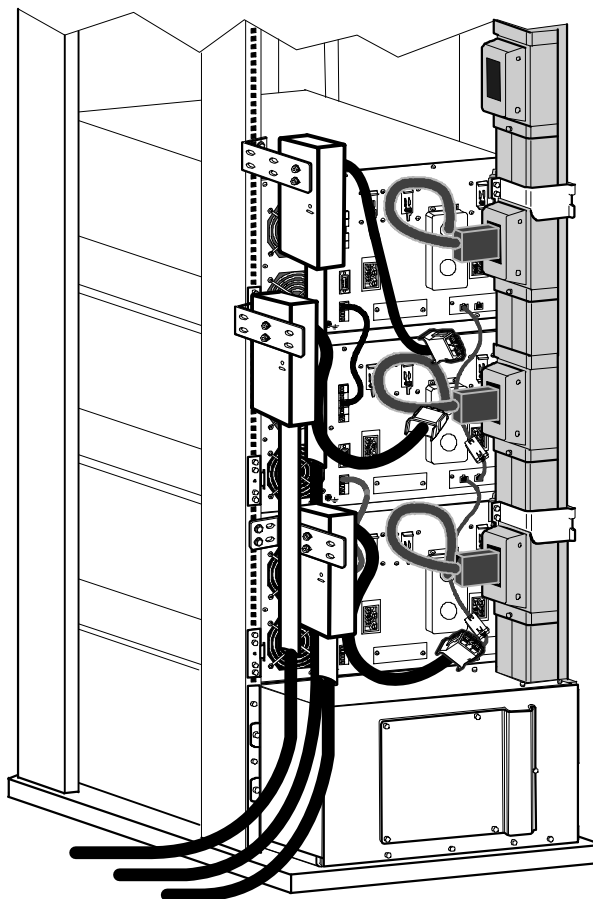

Figure 13. External Battery Interconnect Devices Attached
For an example of a rack with three External Battery Interconnect devices installed, see Figure 13 on page 25.
8. Replace the protective cover. See Figure 13 for an example of three External Battery Interconnect devices assembled and attached to the rack.